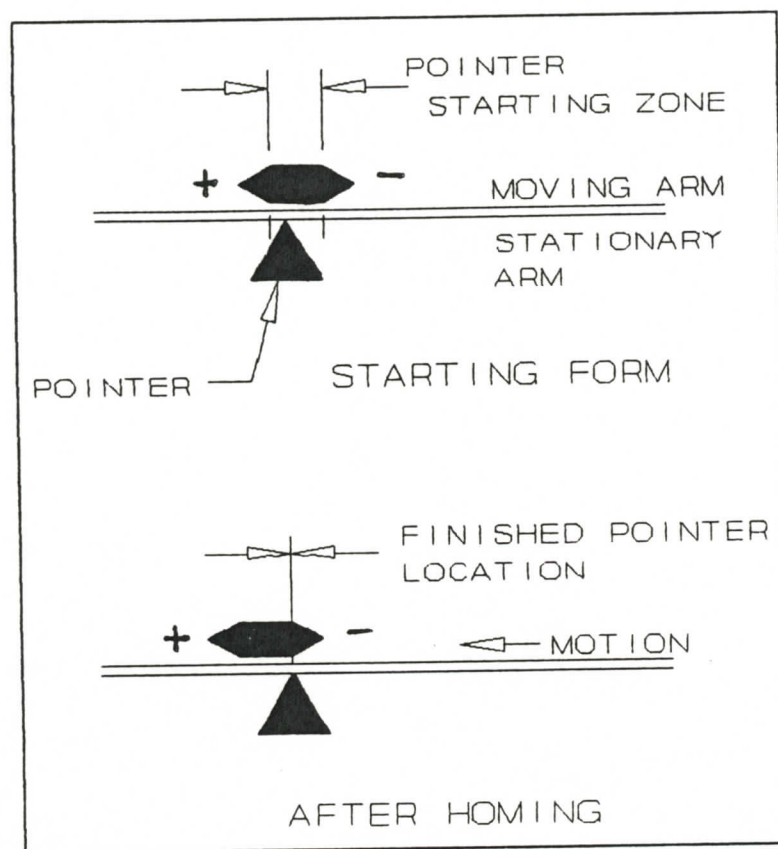

FIGURE 5-1 Homing Marks
- 3) Starting with Joint #1, move all five joints to the homing mark positions. Position each joint such that the homing marks are as shown in Figure 5-1 (the arrow point is within the homing range).
- 6) The arm will move joint by joint into its reference position and display on your screen the status as each joint homes successfully. If a error occurs in any of the joints return to step 1) and repeat the complete procedure. If a error occurs in three (3) consecutive attempts contact your local distributor or CRS Plus.